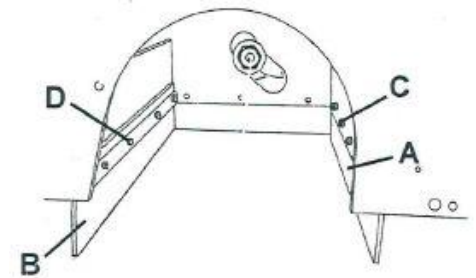

Figure 17
- The tailgate (A, FIG. 17) touches the ground.